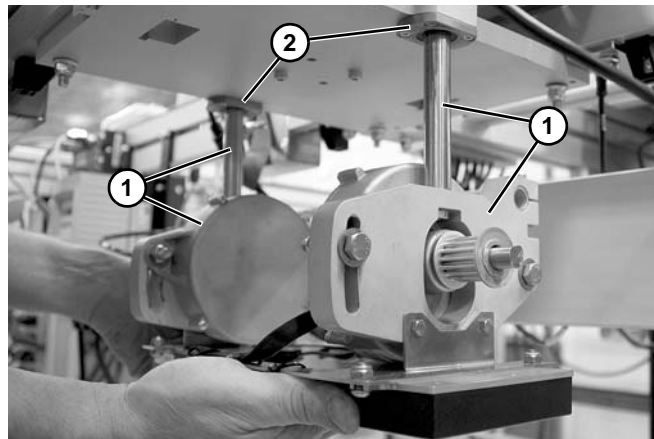

Figure 111
5. Lower drive assembly and shafts (**Figure 111, item 1**) from bearings (**Figure 111, item 2**).